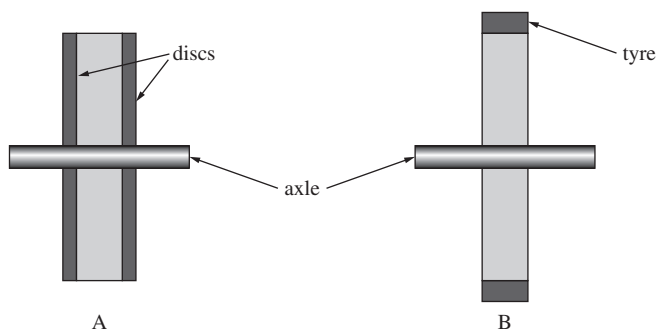

Figure 2
- (c) The energy storage capacity of the flywheel can be improved by adding solid discs to the flywheel as shown in cross-section in **A** in **Figure 2**, or by adding a hoop or tyre to the rim of the flywheel as shown in **B** in **Figure 2**. The same mass of material is added in each case. State, with reasons, which arrangement stores the more energy when rotating at a given angular speed.